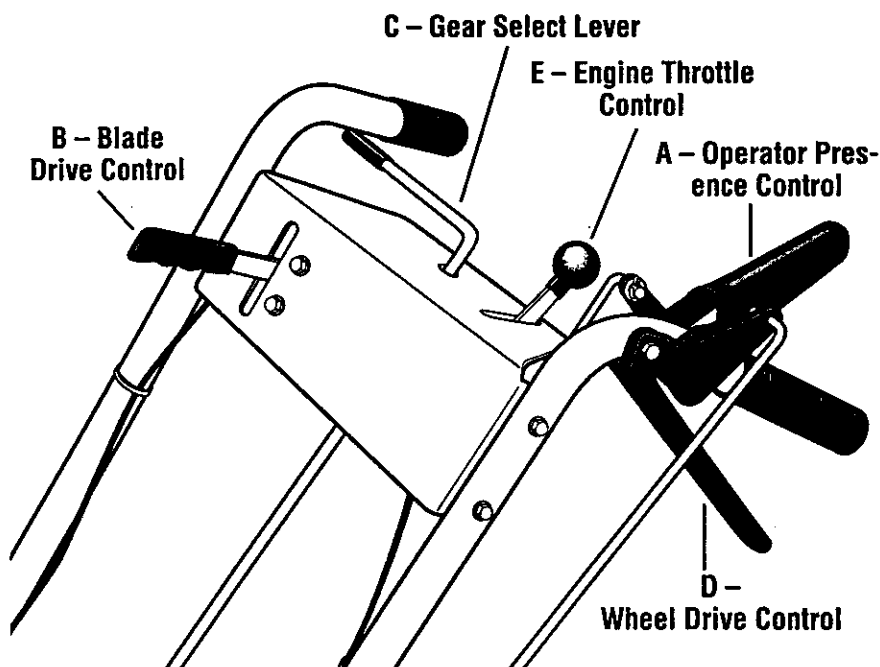

Figure 3-13: Mower Controls.
The mower can be manually pushed or pulled by putting the Gear Select Lever (C, Figure 3-13) in N (neutral) and pressing and holding the Operator Presence Control (A, Figure 3-13) down against the handlebar grip.
3. Move Engine Throttle Control (E, Figure 3-13) fully upward to choke setting to start a cold engine or to fast (rabbit) setting to start a warm engine.
- B. Grasp rope handle (G, Figure 3-13) and pull slowly until rope pulls slightly harder. Let rope rewind slowly. Then pull rope with a rapid, full arm stroke. Let rope return slowly. If engine fails to start after three pulls, repeat instructions starting with Step 2 (try setting throttle at fast setting).
2. Press and hold Operator Presence Control (A, Figure 3-13) against handlebar grip.
3. Slowly push Blade Drive Control (B, Figure 3-13) fully forward until it stays in the engaged position. The blades are now rotating.
- A. Press and hold Operator Presence Control (A, Figure 3-13) against handlebar grip.
- B. Put the Gear Select Lever (C, Figure 3-13) into one of the numbered settings (1 - Slow, 2 - Medium and 3 - Fast). When first practicing with the mower, put lever in No. 1 setting. Select forward speeds according to mowing conditions and terrain. Use slower speeds on rough terrain or when grass is heavy or thick. The forward speed can be increased on smooth terrain or if the grass cover is light. Allow the wheels to stop completely before shifting from one forward speed into another.
C. To start the wheels, slowly squeeze the Wheel Drive Control (D, Figure 3-13). The harder you squeeze, the faster the wheels will turn. To avoid sudden acceleration, slowly squeeze the lever.
A. Stop the mower blades and wheels by releasing the Operator Presence Control (A, Figure 3-13).
C. Put the Gear Select Lever (C, Figure 3-13) in R (reverse) setting by first moving lever to N (neutral). Then pull lever up, turn it to R position, and release lever.
D. To start the wheels, slowly squeeze Wheel Drive Control (D, Figure 3-13). To avoid sudden acceleration, slowly squeeze the lever.